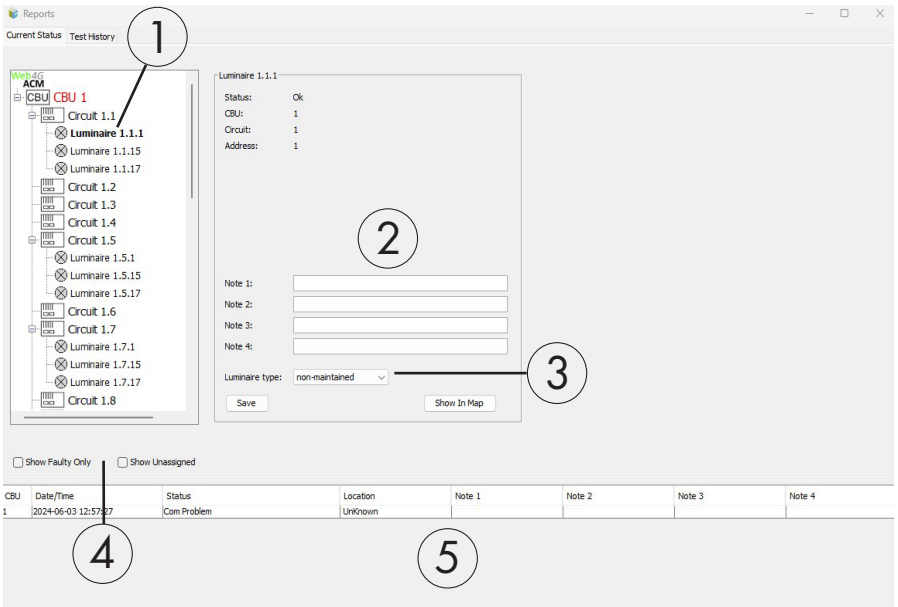

Figure 7. Reports Window – Setting luminaire type and notes
2. Select the Luminaire to which you wish to add type and/or notes from the data tree (No. 1 in Figure 7). You can filter the list by displaying faulty and/or unassigned luminaires by selecting the corresponding options from the filters (No. 4 in Figure 7).
3. Add notes (No. 2 in Figure 7) simply by typing them into the text fields, and select the luminaire type from the drop down list (No. 3 in Figure 7). To save these changes, click Save. By clicking the Show on Map button, the software will open the Users View window, and display the selected luminaire on the map view (if said luminaire is set on a layout map).